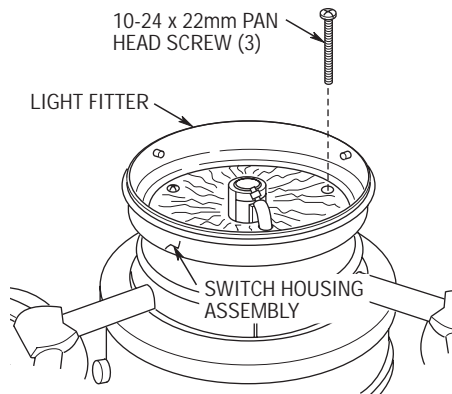

Figure 6
- 8. Position the light fitter into the switch housing assembly (Figure 6) so that the three mounting holes in the light fitter align with the three threaded holes in the switch housing. Install three 10-24 x 22mm pan head screws and tighten securely.